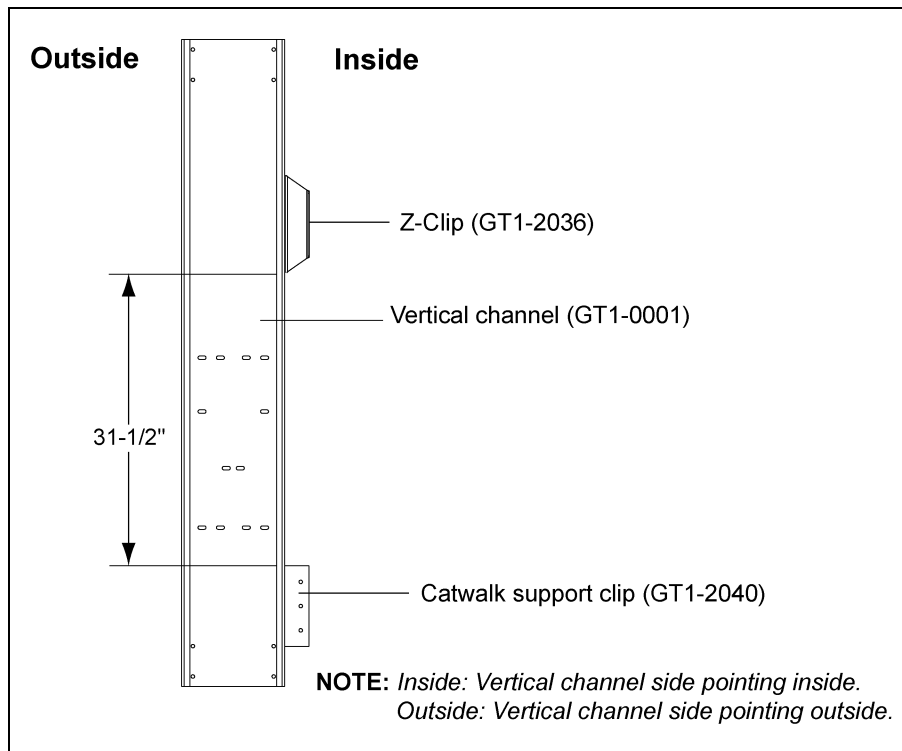

Figure 5C
2. The distance between the Z-clip and support clip 30' inside catwalk is 31-1/2". (See Figure 5C.)